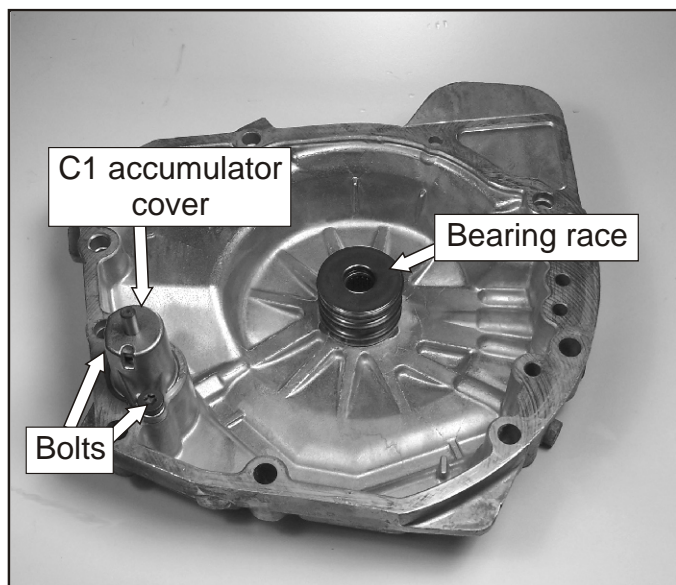

Figure 211
**Caution: The cover is spring loaded. Note: The bolt lengths are 14mm.** Once the cover is off, remove the spring and piston from the cover. See Figure 211.